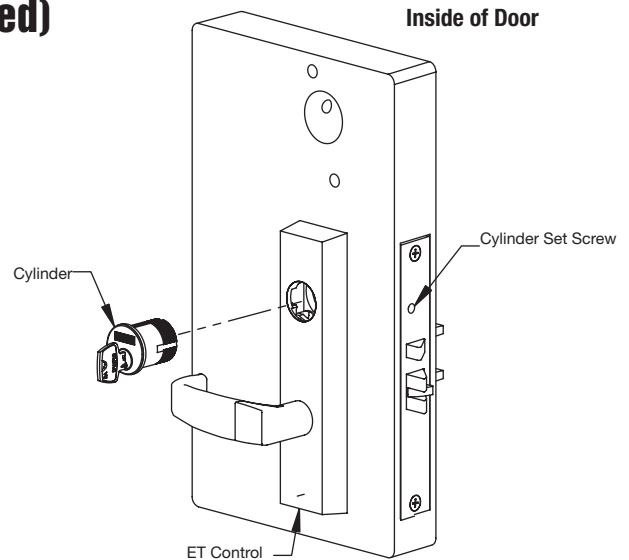

Fig. 3A
1. Back cylinder set screw out slightly (Fig. 3A).